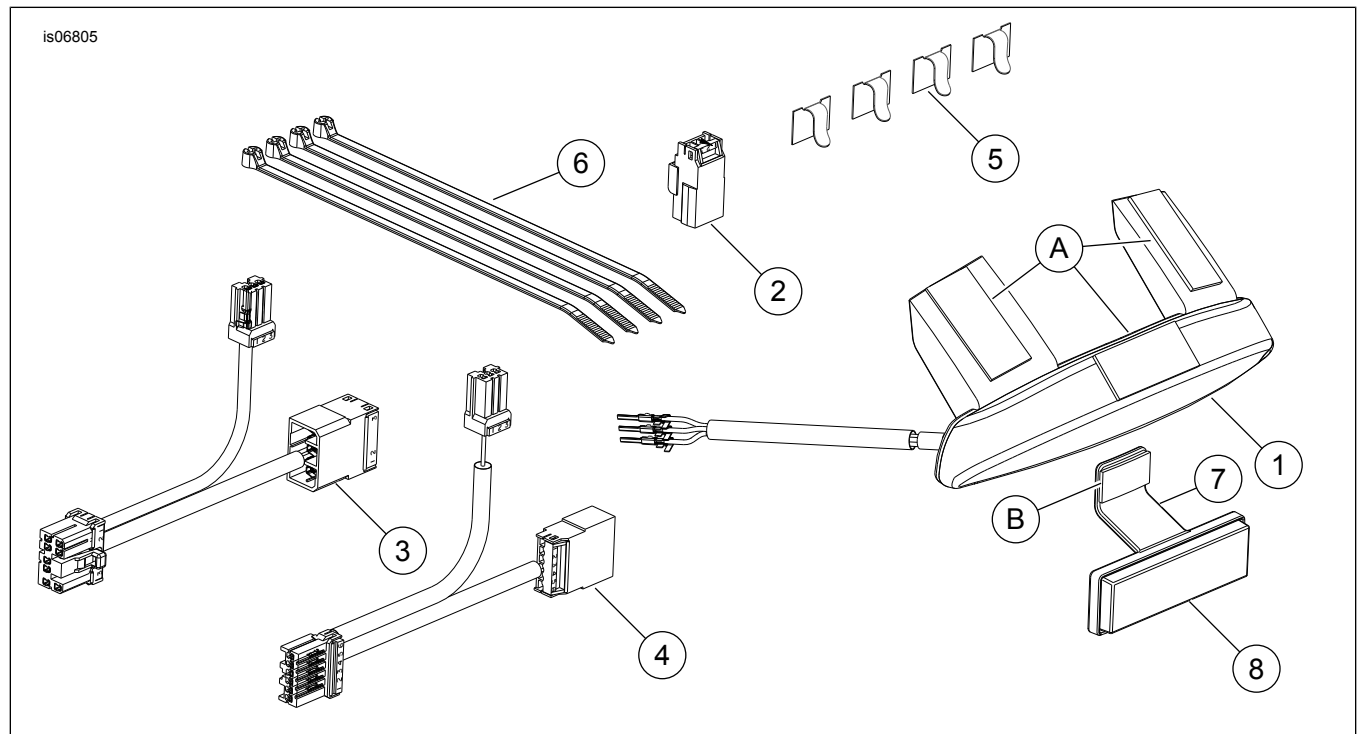

Figure 4. Service Parts: Fender Edge Light Kit
See Figure 4 and Table 1.
5. See Figure 4. Remove the protective tape (A) from the three adhesive pads on the fender edge light (1).
2. **For Dyna models:** See Figure 4. Connect interconnect harness (3) to rear lighting harness connector [7B] and main wiring harness [7A]. **For Sportster models:** See Figure 4. Connect interconnect harness (4) to rear lighting harness connector [7B] and main wiring harness [7A].
4. See Figure 4. Insert the wires and terminals from the light assembly harness into the pin housing (2) from the kit:
6. Secure the interconnect harness in the seat pan area as necessary with cable straps (6).